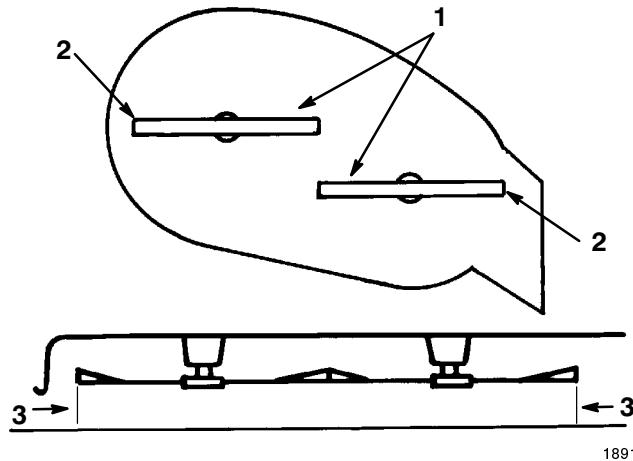

Figure 46
4. Carefully rotate blade(s) side to side (Fig. 46). Measure between the outside cutting edges and the flat surface (Fig. 46). If both measurements are not within $3/16"$ (4.8 mm), an adjustment is required; refer to steps 5 and 6.